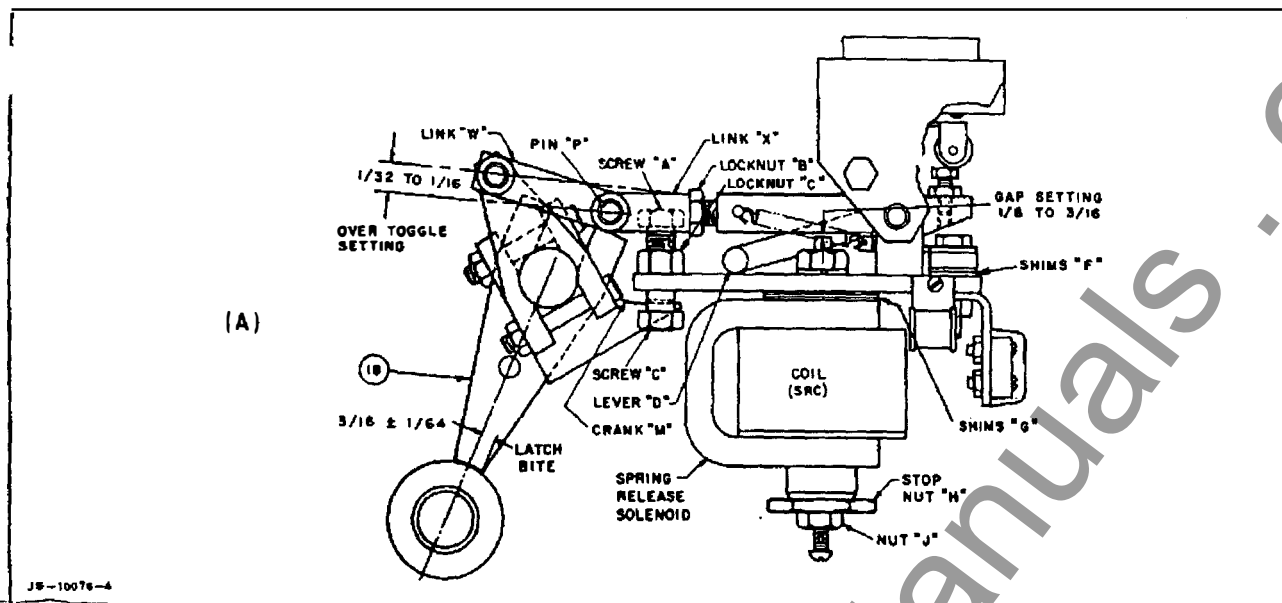
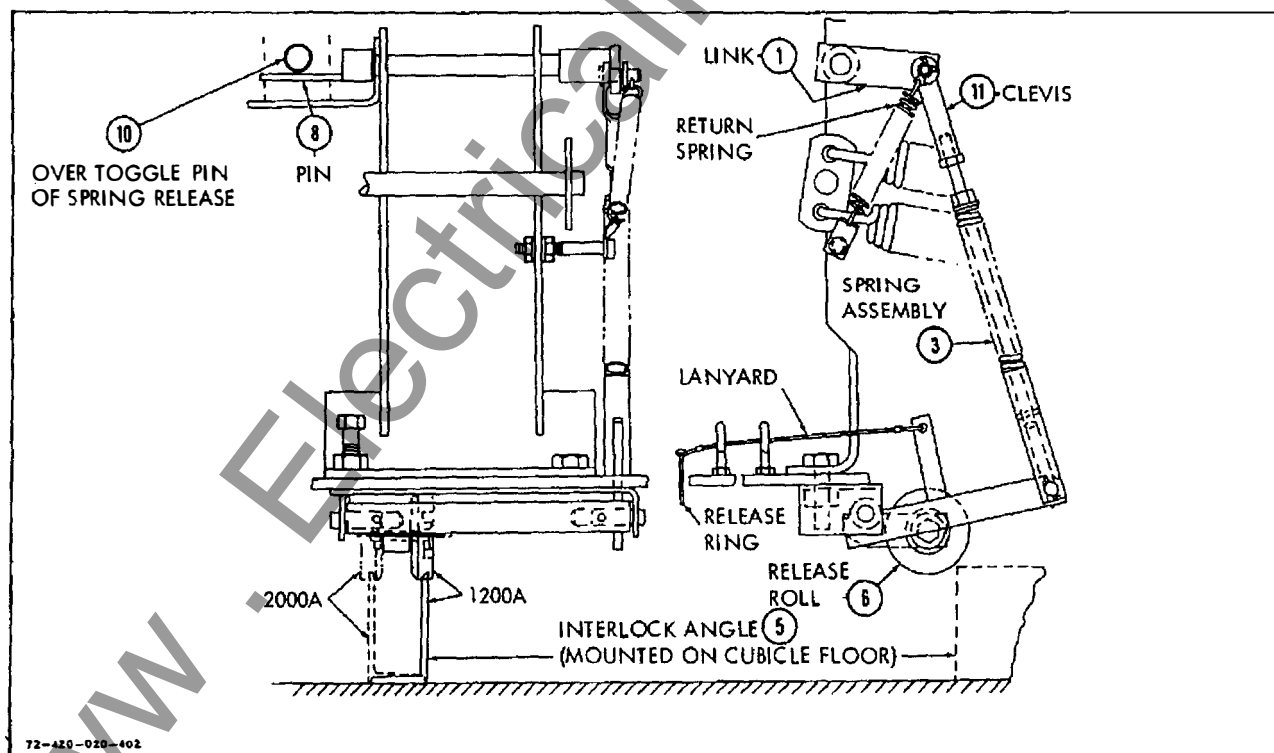

Fig. 14 - Spring release latch and over toggle linkage.
Fig. 15 - Spring release arrangement for stored energy operator.
To change bite of spring release latch (Fig. 14), disconnect links (W and X) by removing pin (P) and turning screw (A) against crank (M). Check visually to see that bite is 3/16-in., or point of contact at about the center of the latch (18). Lock screw (A) with locknut (C). Adjust link (X), if necessary, so that pin (P) can be easily inserted. To adjust link (X), loosen locknut (B) and rotate the link end to increase or decrease its length.
done by release roll (6) (Fig. 15) passing over interlock angle (5), mounted on the cubicle floor. As the release roll passes over the interlock angle, it rises and pushes up on the spring assembly (3). This causes link (1) to rotate pin (8) which raises lever (D) and link (X) (Fig. 14), releasing the closing springs.